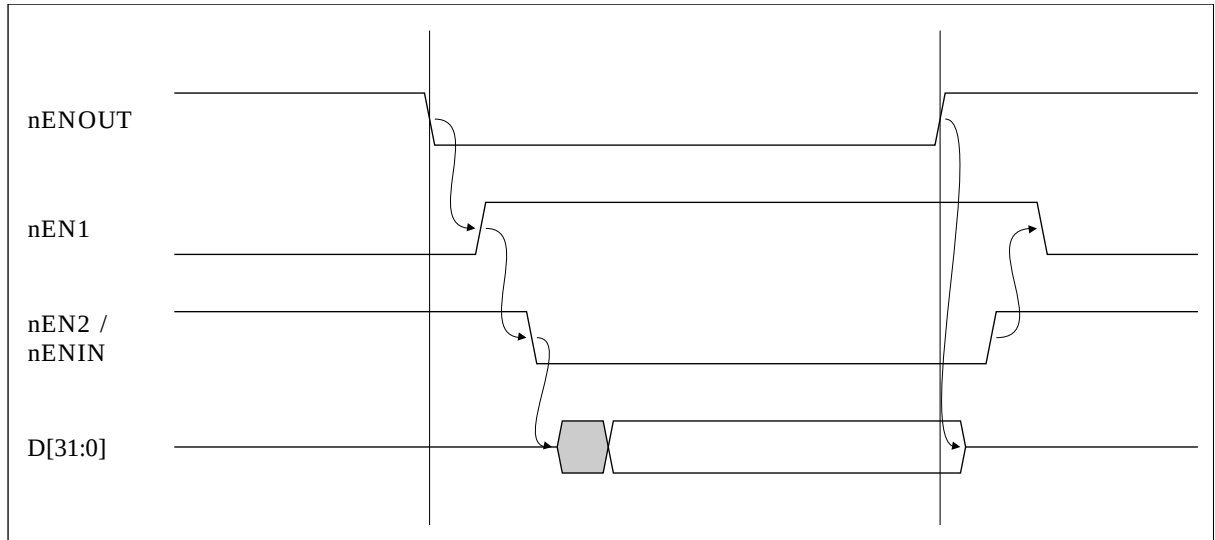

Figure 6-17: Data bus control signal timing
► **Figure 6-17: Data bus control signal timing** on page 6-23 shows how the various control signals interact. Under normal conditions, when the data bus is configured as input, **nENOUT** is HIGH, **nEN1** is LOW, and **nEN2/nENIN** is HIGH. Thus the pads drive **XD[31:0]** onto **D[31:0]**.